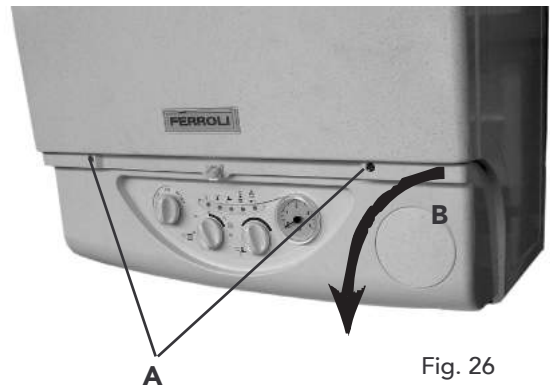

Fig. 26
### 7.03 To lower the control panel (fig. 26)
- Remove the two fixing screw (fig. 26) "A"
### 7.04 Gas valve (fig. 26)